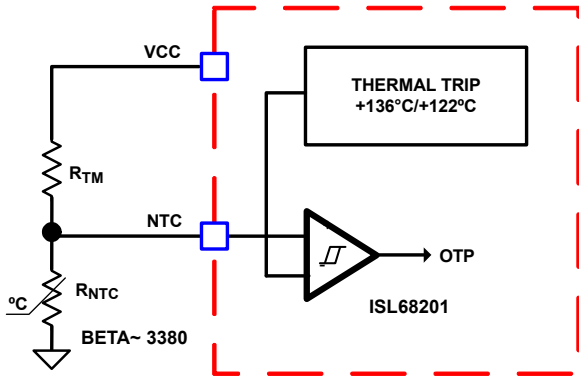
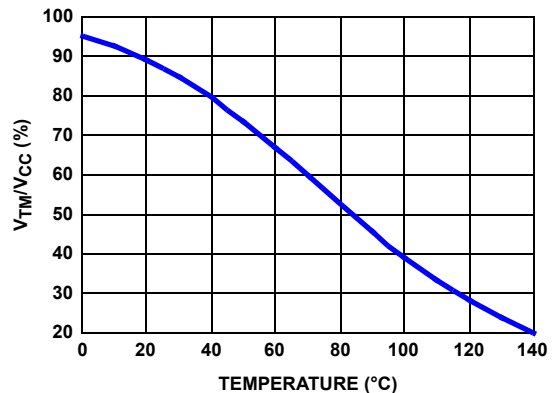

FIGURE 16. BLOCK DIAGRAM OF THERMAL MONITORING AND PROTECTION
FIGURE 18. THE RATIO OF TM VOLTAGE TO NTC TEMPERATURE WITH RECOMMENDED PART
The thermal monitoring function block diagram is shown in Figure 16 on page 18. One NTC resistor should be placed close to the respective power stage of the voltage regulator VR to sense the operational temperature, and pull-up resistors are needed to form the voltage dividers for the NTC pin. As the temperature of the power stage increases, the resistance of the NTC reduces, resulting in the reduced voltage at the NTC pin. Figure 18 on page 18 shows the TM voltage over the temperature for a typical design with a recommended 10kΩ NTC (P/N: NCP15XH103J03RC from Murata,  $\beta = 3380$ ) and 1.54kΩ resistor  $R_{TM}$ . It is recommended to use those resistors for accurate temperature compensation because the internal thermal digital code is developed based on these two components. If a different value is used, the temperature coefficient must be close to 3380 and  $R_{TM}$  must be scaled accordingly. For instance, if  $NTC = 20k\Omega$  ( $\beta = 3380$ ), then  $R_{TM}$  should be  $20k\Omega / 10k\Omega * 1.54k\Omega = 3.08k\Omega$ .
Based on the  $V_{CC}$  voltage, the ISL68201 converts the NTC pin voltage to a digital signal for temperature compensation. With the nonlinear A/D converter of the ISL68201, the NTC digital signal is linearly proportional to the NTC temperature. For accurate temperature compensation, the ratio of the NTC voltage to the NTC temperature of the practical design should be similar to that in Figure 18.
1. Properly choose the voltage divider for the NTC pin to match the NTC voltage vs temperature curve with the recommended curve in Figure 18 on page 18.
As shown in Figure 16 on page 18, there is a comparator with hysteresis to compare the NTC pin voltage to the threshold set. When the NTC pin voltage is lower than 22.31% of the VCC voltage (typically +136°C), it triggers Over-Temperature Protection (OTP) and shuts down the ISL68201. When the NTC pin voltage is above 27.79% of the VCC voltage (typically +122.4°C), the ISL68201 resumes normal operation. When an OTP fault is declared, the controller forces the LGATE and UGATE gate-driver outputs low.